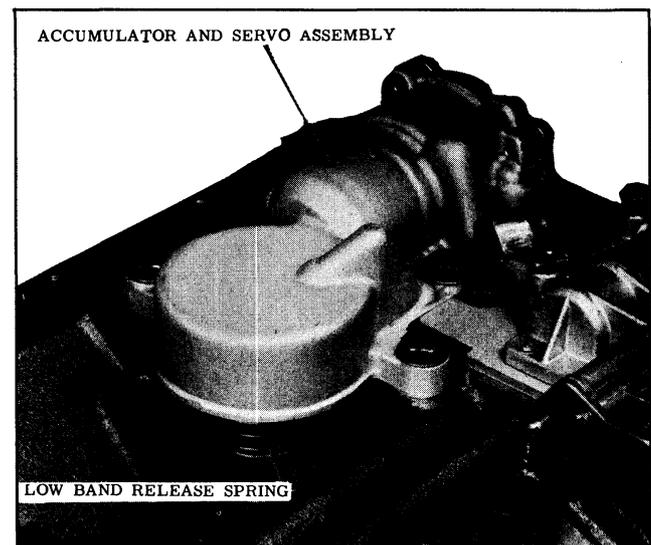

Fig. 3-148 Accumulator & Servo Installation
3. Position the low band release spring on the servo piston. Then install the servo and accumulator assembly with 3 attaching bolts. (See Fig. 3-148) Torque bolts 23 to 28 ft. lbs.